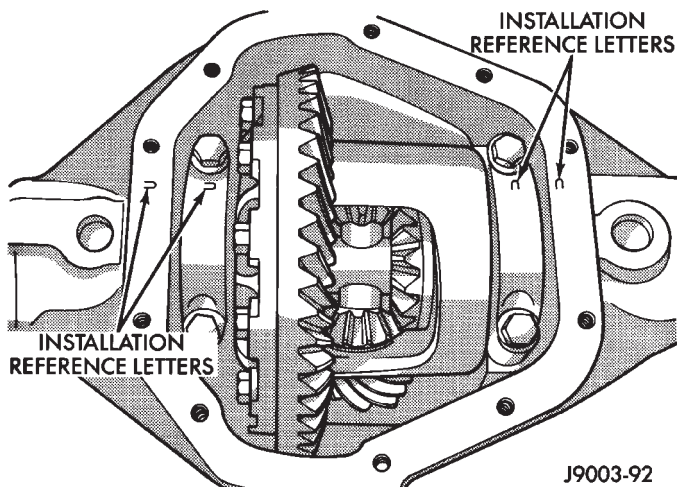

Fig. 24 Bearing Cap Identification
(5) Note the installation reference letters stamped on the bearing caps and housing machined sealing surface (Fig. 24).